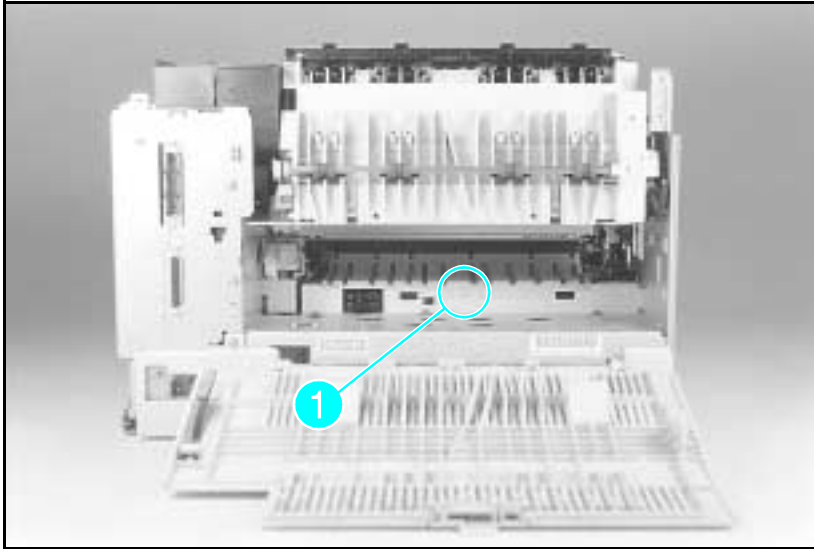

Figure 6-52 Guide Plate Cover Screw
- 1 Remove the (1) screw from the sheet metal Guide Plate Cover. (This screw is behind the Fuser Assembly, see Figure 6-52, callout 1).